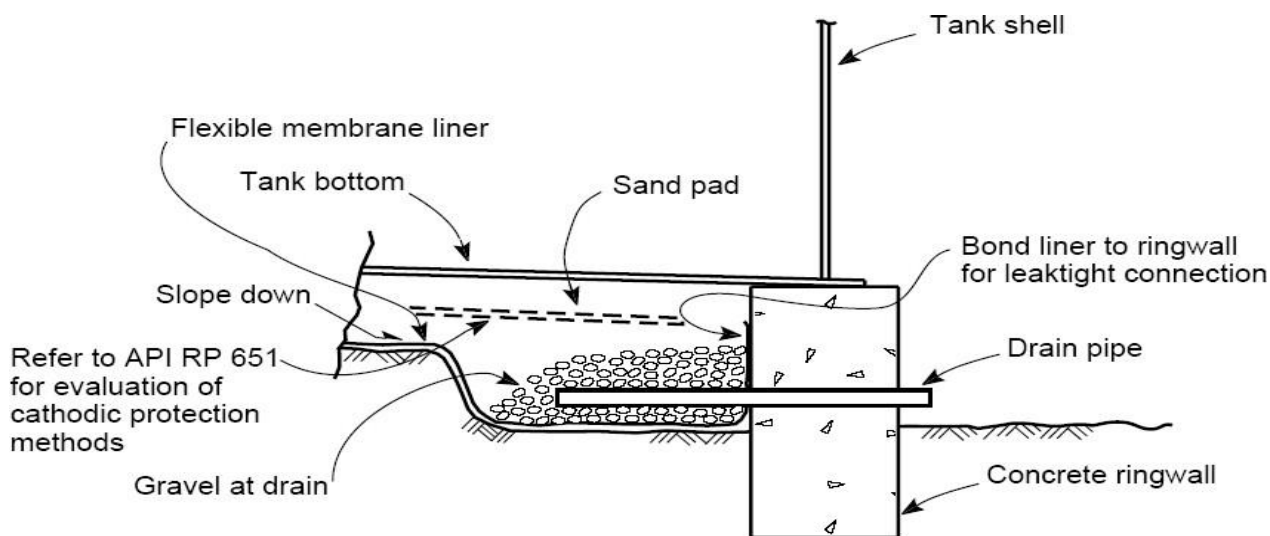

Figure I-1—Concrete Ringwall with Undertank Leak Detection at the Tank Perimeter (Typical Arrangement)
- 3.3.6.1 Tanks in services other than water shall be provided with under tank leak detection and sub-grade protection according to API STD 650, Appendix I. Acceptable construction details are Figures I-1, I-2, I-3, I-6, I-7, I-8, I-9 and I-10.